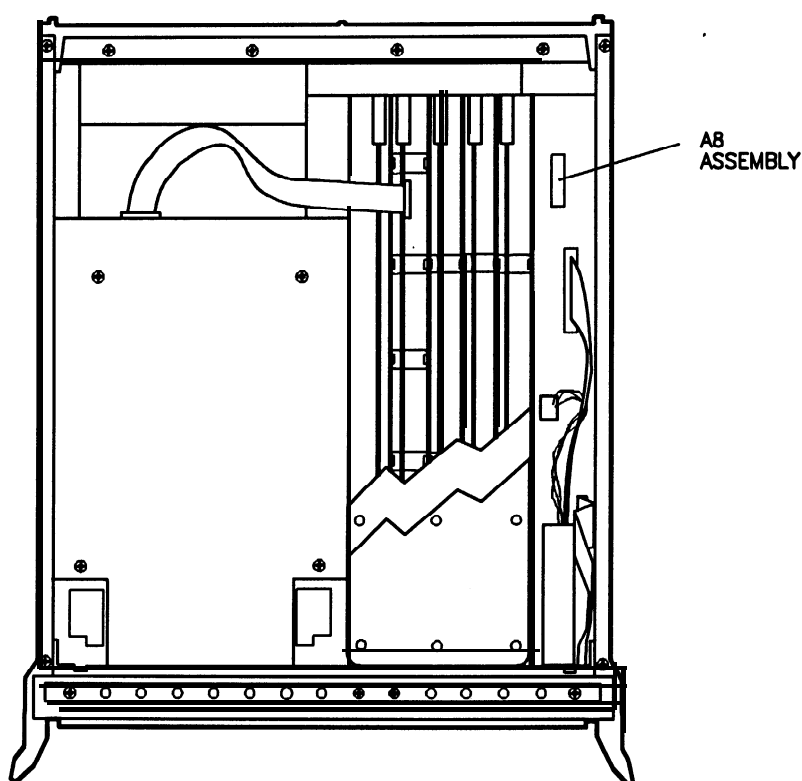

Figure A-1. A8 Assembly Location
- c. Refer to Figure A-1. Remove the A8 assembly.